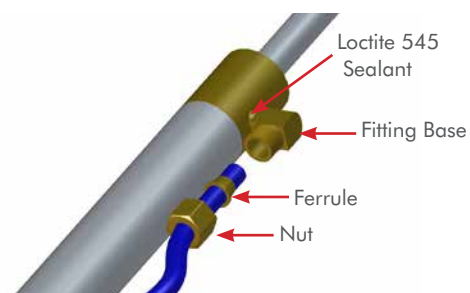

Figure 1
Before installing fitting base into hydraulic cylinder or the hydraulic pump unit (HPU), be sure to apply Loctite 545 sealant to threads. **(FIG. 1 & 5)**
**IMPORTANT:** The tubing needs to pass through the ferrule far enough to expose approximately 1/2" of tubing. **(FIG. 1)**